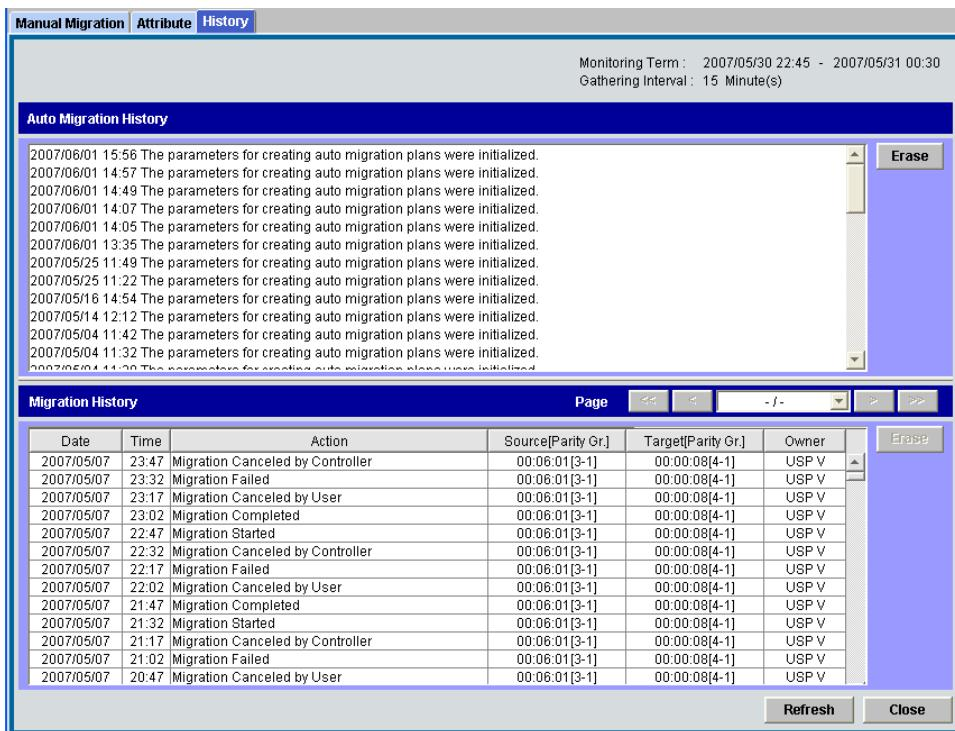

Figure 23 The History Window of the Auto LUN
The **History** window (Figure 23 on page 38) of the **Auto LUN** displays logs of manual migration operations.
2. Select the **History** tab of the Auto LUN windows (Figure 23 on page 38).